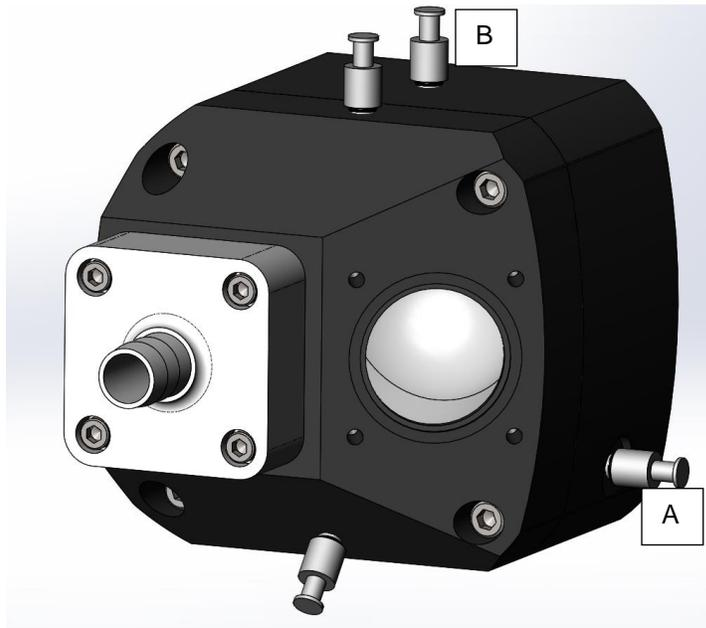

Figure 8 – Debubble port (A)
8. Use the Luer fitting on the side of the Pump Head (Luer 'A' from Figure 8), to begin filling the Pump Head. Using a syringe, add fluid while allowing air to escape from the Luer fitting on the top of the Pump Head (Luer 'B' in Figure 8). Once the system is full, ensure all air has been removed. Add or remove fluid to ensure the Ventricle Membrane in a slightly compressed state. Confirm by viewing through the open valve port. Refer to the Viscoelastic Impedance Adaptor (VIA) User Manual (document 22846 - <http://vivitrolabs.com/product/superpump/#accessories-tab-VIA7991>) for instructions on removing any remaining air in the VIA assembly.
13. Slowly bring the system up to the desired stroke volume, ensuring that at no point the valves are occluded by the ventricle. This can be detected by looking for momentary occlusion of the valves and an abrupt pause in forward flow. If the valves do become occluded, stop the system and remove fluid from the rear Luer fitting stopcock (Luer 'B' in Figure 8).